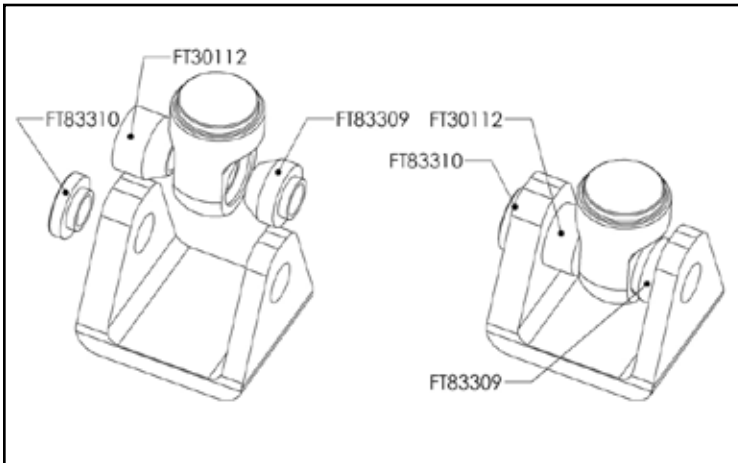

FIGURE 1 - STEP 2
2. Locate one of each of the supplied FT30112 & FT83309 & FT83310 Mis-Alignments, and 5/8" bolt, nut, and washers. Attach the shock to the lower control arm as shown in the drawing below. The FT30112 is the wider Mis-alignment and should be installed on the side of the shock that faces the front of the truck. Torque to 100 ft. lbs. **SEE FIGURE 1**